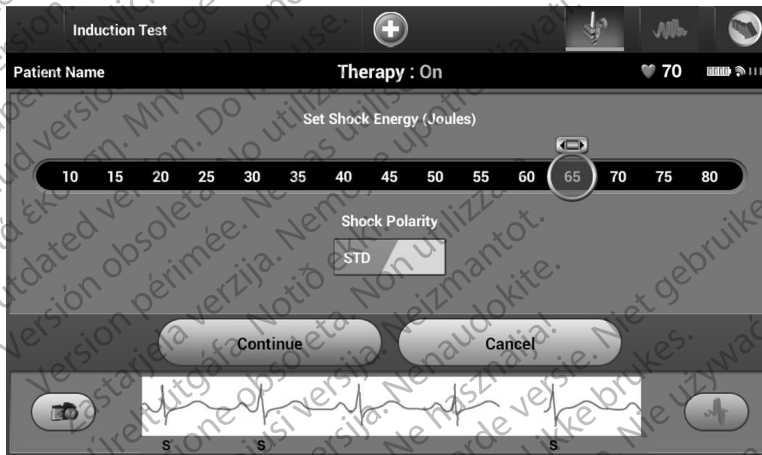

Figure 15: Setting the desired first shock energy for defibrillation testing
2. Select the Patient Test button to setup the induction test (Figure 15).